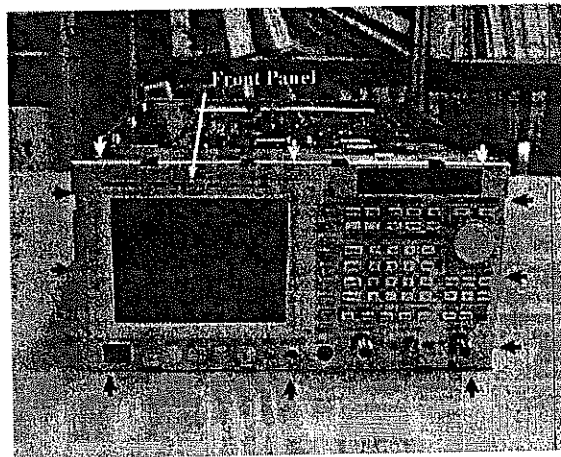

Figure 5-6 Location of Screws
5. Remove front panel to remove 12 pcs screws referring Figure 5-6 of the location.